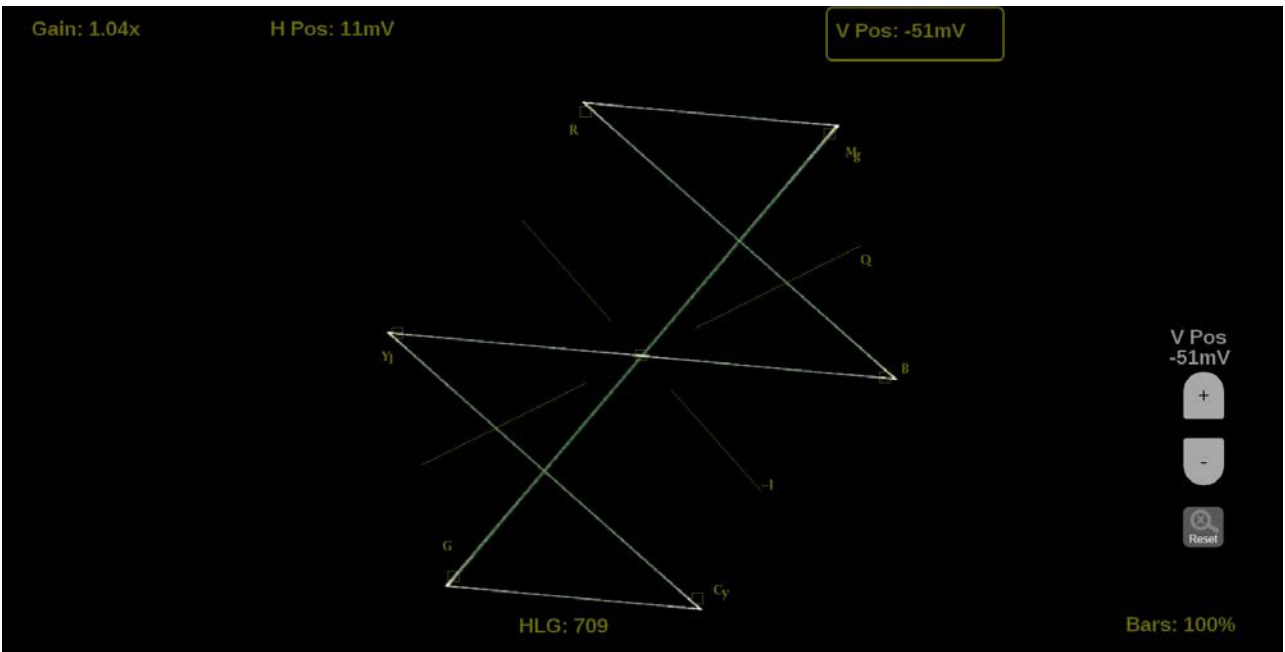

Figure 105: Vector on-screen tools – vertical position
2. Select the **V Pos** button to allow adjustment of the vertical trace. (See Figure 105.)